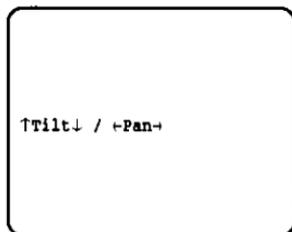

Fig. 11
- Display the Tilt/Pan Menu as shown in Fig. 11 by repeating the previous procedures.